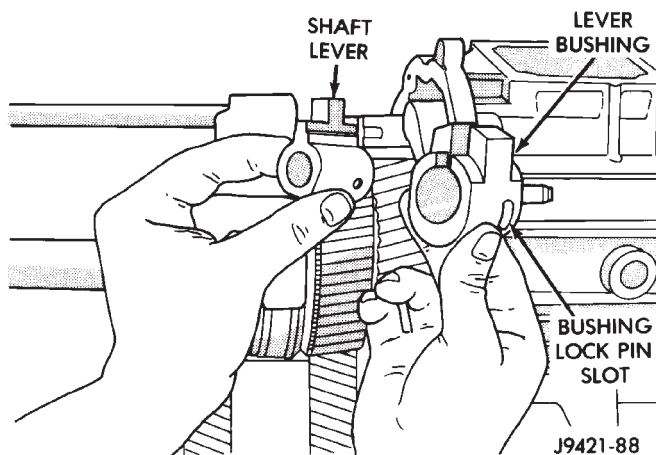

Fig. 105 Assembling Shift Shaft Lever And Bushing
(4) Assemble shift shaft shift lever and bushing (Fig. 105). Be sure slot in bushing is facing up and roll pin hole for lever is aligned with hole in shaft.